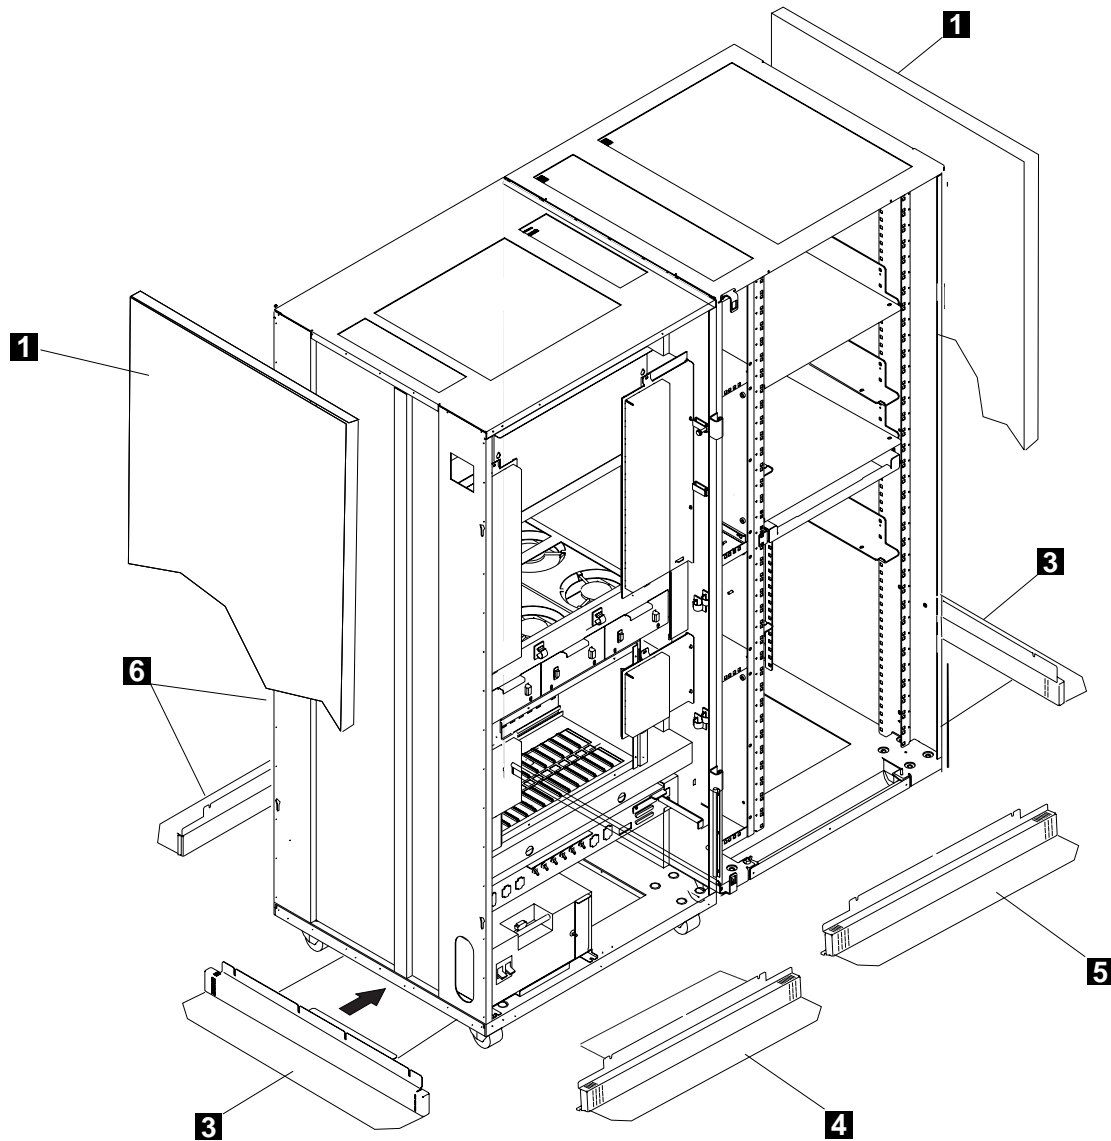

Figure 5-1. 3746-950 and Controller Expansion Ground Brackets (Front View)
- \_\_\_\_ Install the front ground plate **4** (PN 58G5677) and left ground plate **3** (PN 58G5676) using screws (PN 2665527) (refer to Figure 5-1 on page 5-3).
- \_\_\_\_ Install the front ground plate **5** (PN 58G5675) and the right ground plate **3** (PN 58G5676) using screws (PN 2665527) (refer to Figure 5-1 on page 5-3).